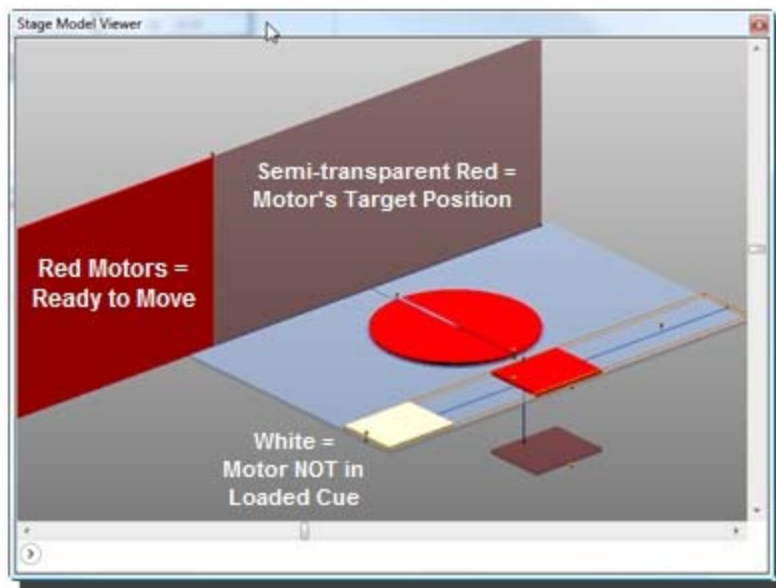

Figure 326
3. The motor(s) that will move in the loaded Cue change to red and their target position(s) are shown in semi-transparent red inside the **Stage Model Viewer** (Figure 326).